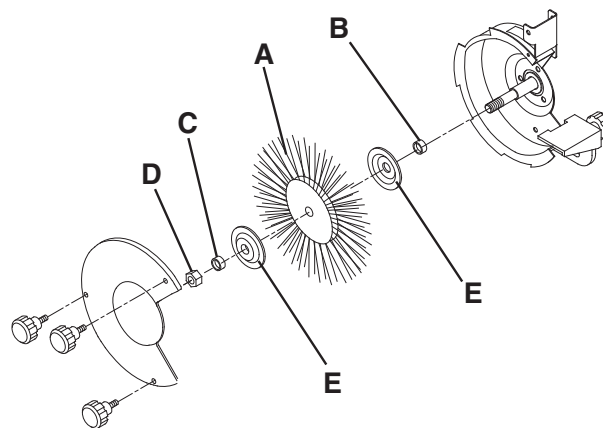

Figure 16 - Parts of the wire wheel assembly.
Refer to Figure 16.
Wire wheel (A) (supplied with grinder) or buffing wheel can be used with your grinder. Depending on the thickness of the wheel, you will need to add one or more spacers to allow the arbor hex nut to tighten correctly. These spacers are identical to each other. Figure 16 shows the correct placement of the spacers (B) and (C).